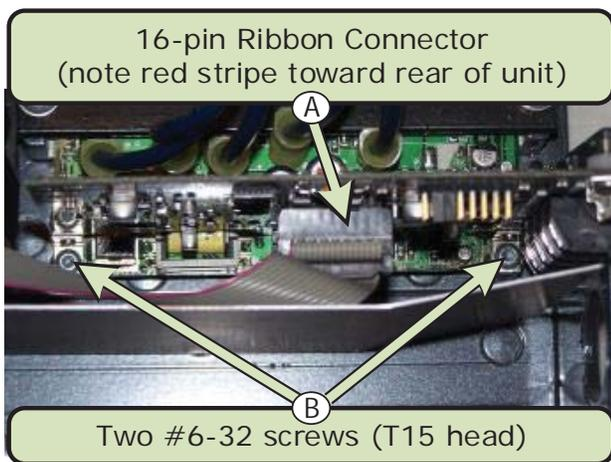
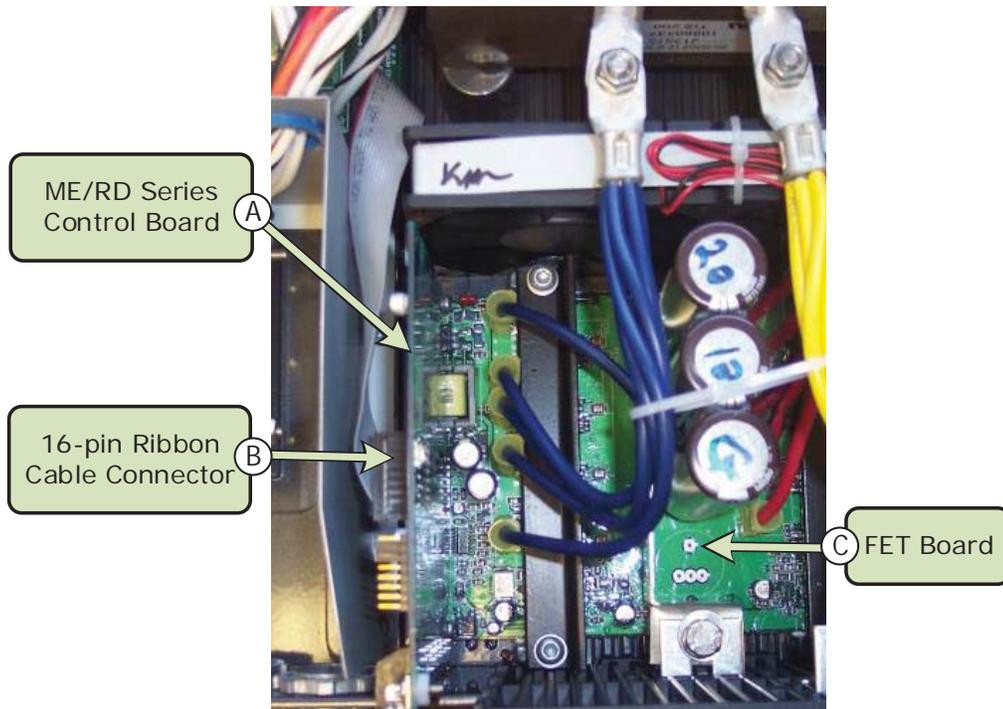

Figure 3, Top View of the Control Board
Figure 6, ME/RD Series Control Board Compartment
2. Locate the ME/RD Series control board in the inverter (Figure 6, Item A), and then remove the two #6-32 screws securing it to the inverter base. See Figure 3, Item B.
4. Locate and pull off the 16-pin ribbon connector. See Figure 3, Item A.
1. Remove the new control board from its antistatic bag, and then reconnect the 16-pin ribbon cable connector. Before pushing in the connector, ensure it is seated with the red stripe on the ribbon cable facing toward the rear of the inverter (Figure 3, Item A) and the connector pins are aligned correctly.
3. Replace the two #6-32 screws (T15 head) to secure the new control board to the FET board. See Figure 3, Item B.
3. Locate and remove the two #6-32 screws (T15 head) securing the control board. See Figure 3, Item B.
5. Look on the front of the control board and pull on the 16-pin ribbon connector to remove. See Figure 3, Item A.
2. Reconnect the 16-pin ribbon cable connector to the front of the new control board. Before pushing it in, ensure it is connected with the red stripe on the ribbon cable facing toward the rear of the inverter (refer to Figure 3, Item A for reference) and the connector pins are aligned correctly.
5. Secure the new control board into the bottom 16-pin FET board connector by screwing in the two #6-32 screws (T15 head) to the FET board. See Figure 3, Item B.